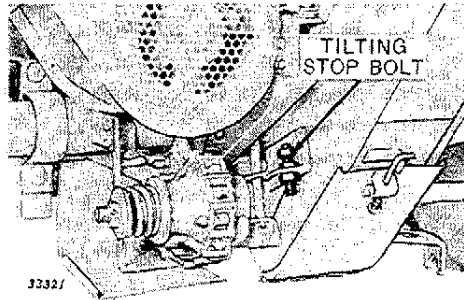

Figure 1
1. (Figure 1) Tighten tilting stop bolt so damage will not occur to picker while adjusting range of tilt.
3. (Figure 1) With gatherer points raised, screw tilting stop bolt against fan support angle.
1. (Figure 1) Tighten tilting stop bolt so picker will not be damaged while adjusting range of tilt.
3. (Figure 1) With gatherer points raised, screw tilting stop bolt against support angle.